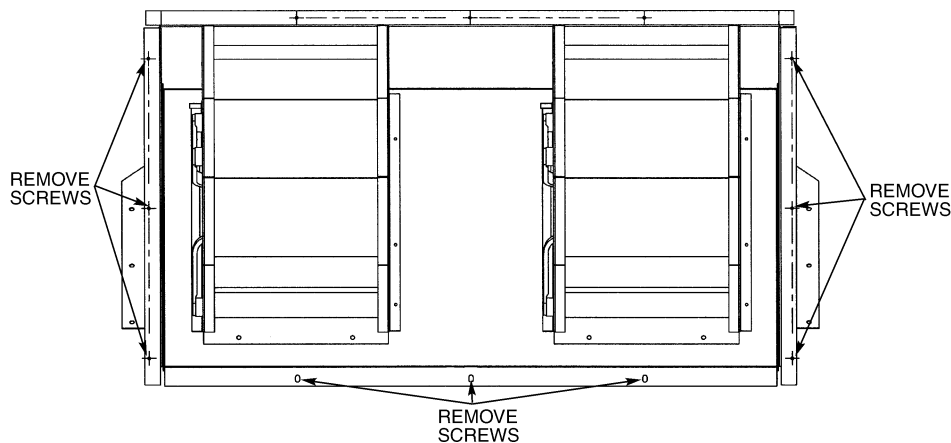

Fig. 19 — Power Exhaust or Barometric Relief Damper Mounting Details
1. Remove 9 screws holding each damper assembly in place. See Fig. 19. Each damper assembly is secured with 3 screws on each side and 3 screws along the bottom. Save screws.